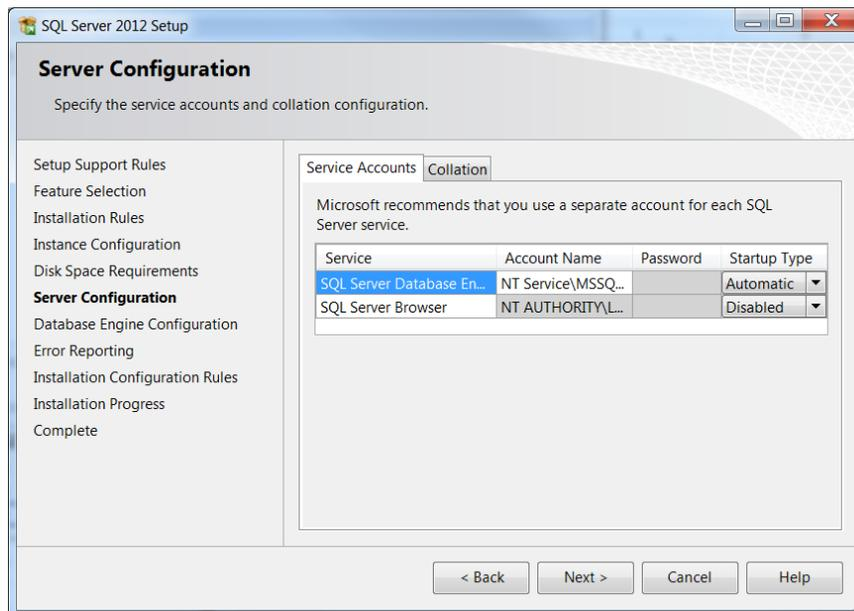

Figure 16: SQL Server 2012 Setup Server Configuration
10) At the Server Configuration window (Figure 16), click **Next**.